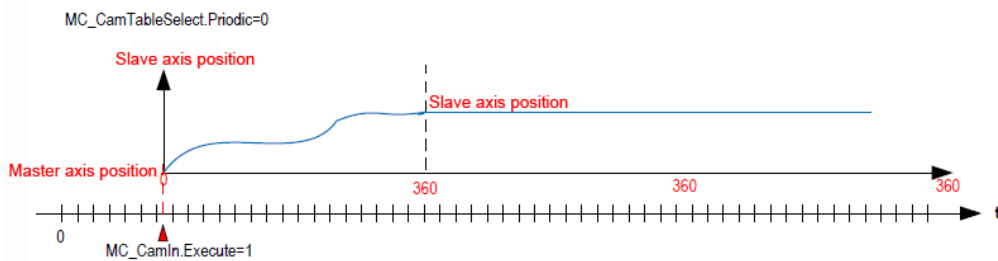

Figure 8-2 Single cycle mode
1. Single cycle mode (Periodic:=0): After the cam table cycle is completed, the slave shaft leaves the cam running state, as shown in Figure 8-2.